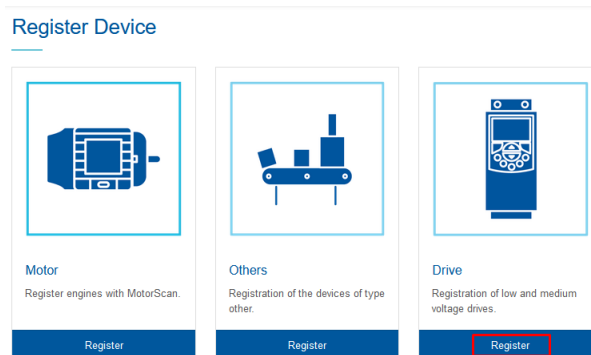

Figure 3.5: Adding a drive
Step 4 Select the “Drive” option and click on the “Register” button, as shown in Figure 3.5.